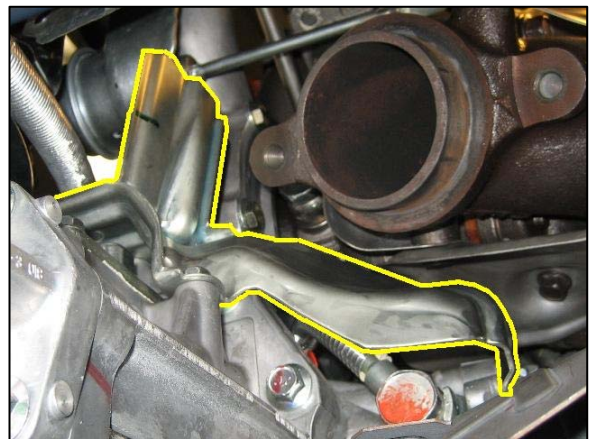

Fig. 48
50. The final trimmed heat shield is shown in *Fig. 47*. Once final trimming is complete, install shield and tighten the bolts to 6-8 lb-ft (72-106 lb-in / 8-12 N-m) (3 bolts, 10mm socket). Heat shield is shown installed in *Fig. 48*, outlined in yellow.